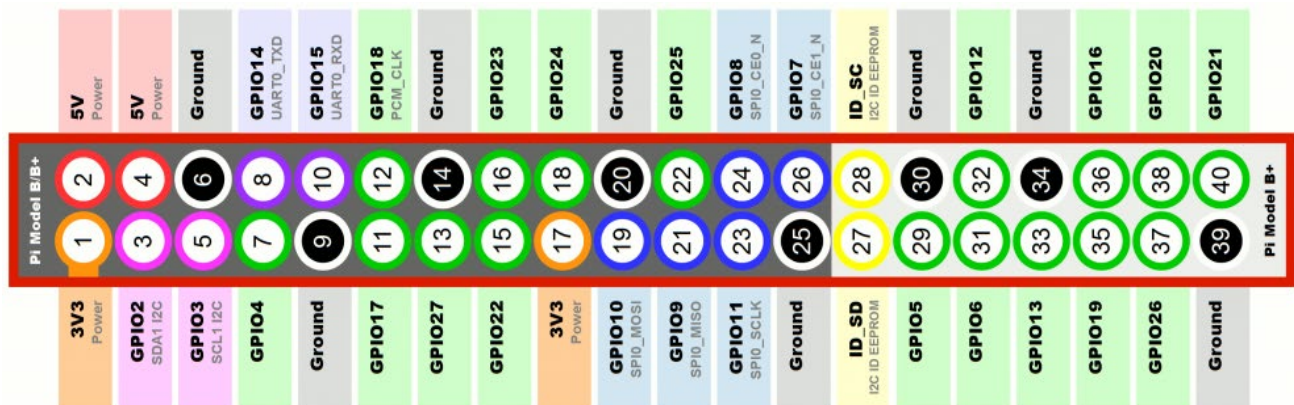

Figure 2: Raspberry Pi 3 - Model B GPIO pin
- ✓ Providing **27 GPIO pins** as well as **+3.3 V, +5 V, and GND** supply lines as shown in Fig. 2.